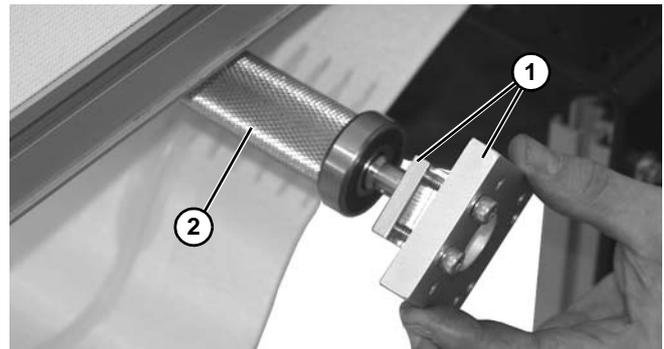

Figure 75
- Separate mounting blocks (**Figure 75, item 1**) from spindle (**Figure 75, item 2**).